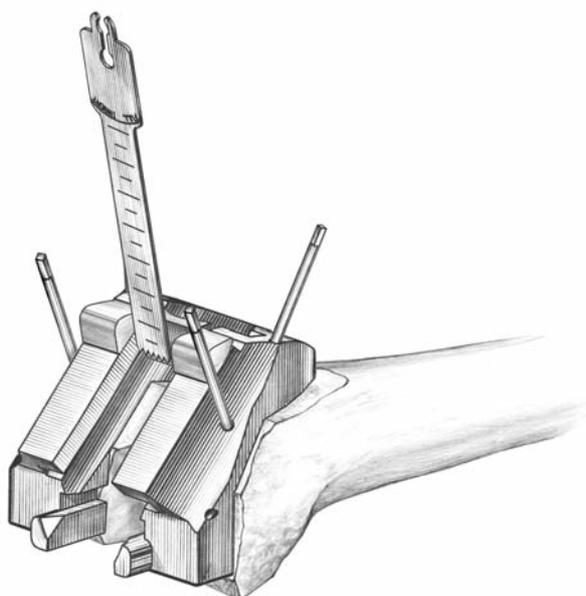

Figure 28
- ▶ Using the inner walls of the Universal Notch Guide as a saw guide, lay the saw blade flat against the cutting guide and saw on it through the intercondylar notch both medially and laterally until the cut is complete (Figure 28).